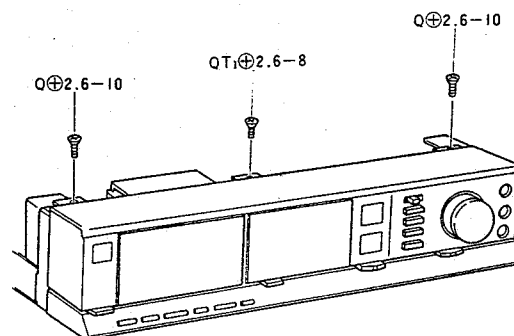

Fig. 5
- 2) Remove 3 screws to remove the front panel. (See figure 5)